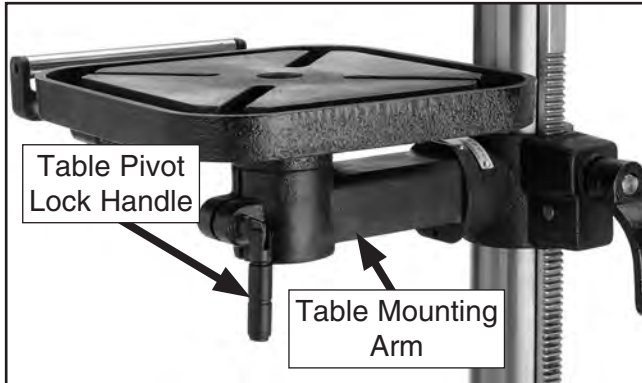

Figure 16. Table secured with table pivot lock handle.
- Thread (1) table pivot lock handle into table mounting arm cartridge (see **Figure 16**) and tighten until table is secure.